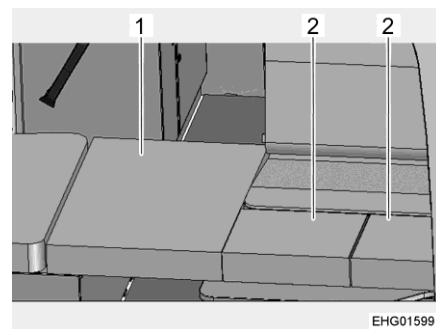

Fig. 108 After conversion
- Place the large additional cushion (Fig. 108,1) on the support board in the aisle.
- Place the small additional cushions (Fig. 108,2) on the table.